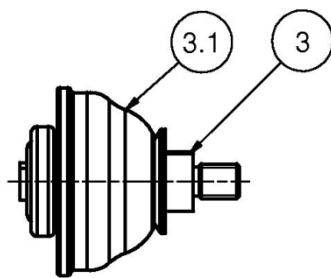

Figure 11 – Valve cone (3) with inverted diaphragm (3.1)
- Invert the diaphragm (3.1) (see figure 11).